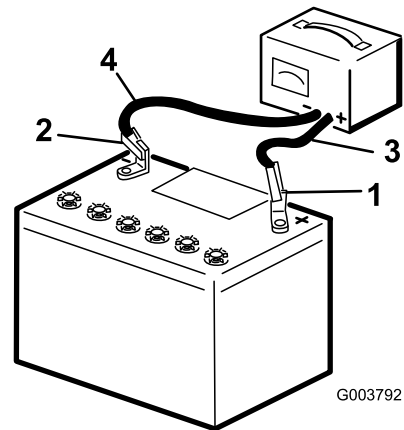

Figure 35
- Charge the battery for 10 to 15 minutes at 25 to 30 amps or 30 minutes at 4 to 6 amps (Figure 35). Do not overcharge the battery.
- When the battery is fully charged, unplug the charger from the electrical outlet, then disconnect the charger leads from the battery posts (Figure 35).